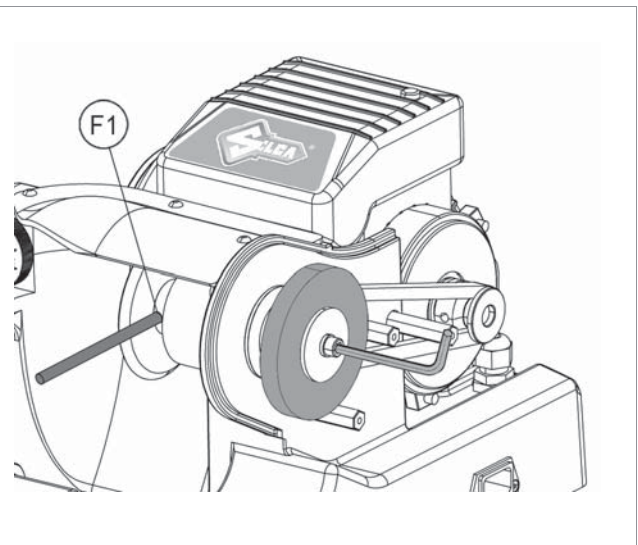

Fig. 34
- 2) Slot the locking rod (provided) into the hole (F1) of the cutting tool shaft (Fig. 34).
- 3) Use the Allen key to loosen the screw holding the brush in place (Fig. 34).
- 6) Install the cover (P).